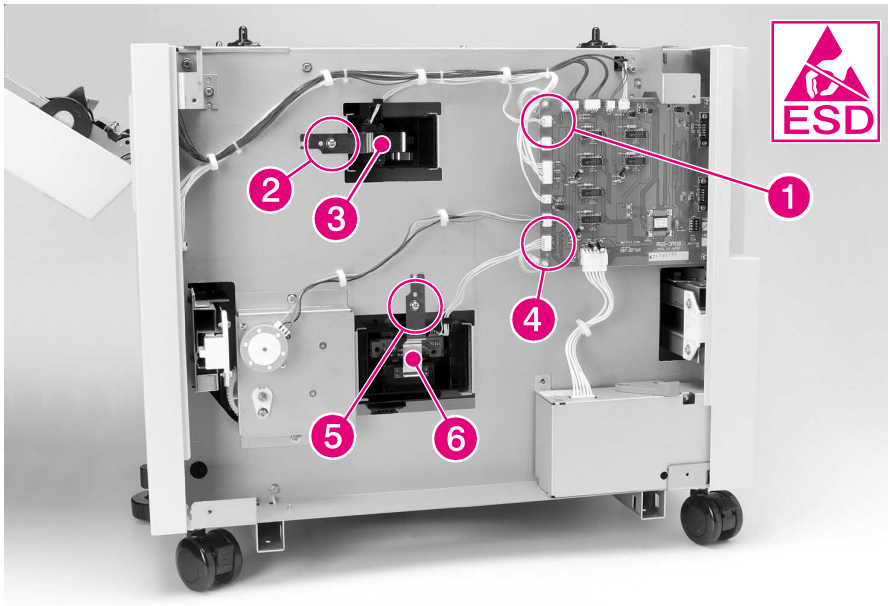

Figure 6-76 2000-sheet Input Tray Paper Size and Paper Quantity Switch
- 2 Locate the cable that runs from the Paper Quantity Switch Assembly on the 2000-sheet Input Tray to the unit's Controller PCA. Disconnect the cable from the Controller PCA (J205 connector), and then free the cable from the cable clips that secure it to the chassis (Figure 6-76, callout 1).
- 1 When reinstalling the metal retaining spring that holds the switch assembly in place (Figure 6-76, callout 2), seat the retaining spring onto the locating pins that are on the chassis.
- 2 Reconnect the switch assembly's cable to the J205 connector on the Controller PCA (Figure 6-76, callout 1).
- 2 Locate the cable that runs from the Paper Size Switch Assembly on the 2000-sheet Input Tray to the unit's Controller PCA. Disconnect the cable from the Controller PCA (J204 connector) (Figure 6-76, callout 4).
- 1 When reinstalling the metal retaining spring that holds the switch assembly in place (Figure 6-76, callout 5), seat the retaining spring onto the locating pins on the chassis.
- 2 Reconnect the switch assembly's cable to the J204 connector on the Controller PCA (Figure 6-76, callout 4).